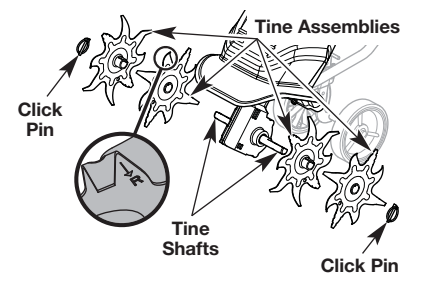
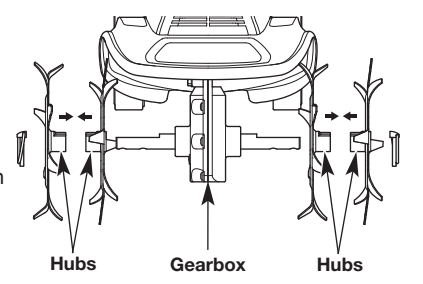

Fig. 10
Fig. 11
2. Remove the click pin found at the end of each tine shaft (Fig. 10).
6. Slide on the new tines, with the hubs facing in towards each other (Fig. 11). Make sure that the rotation arrows are facing the gearbox when installing the tines on the left tine shaft and away from the gearbox for the right tine shaft (Fig. 10).